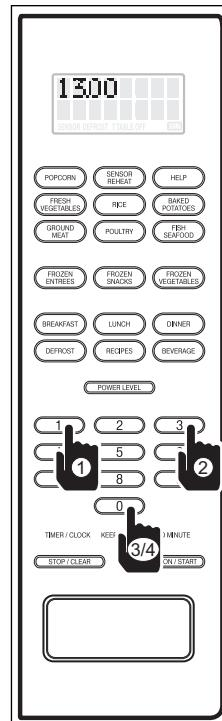

Figure 3-40.
2. Enter desired keep warm time duration. For example: 13 minutes; press the number 1 key, then the number 3 key, then the number 0 key twice (See Figure 3-40), and the display will flash "PRESS START - .13.00".